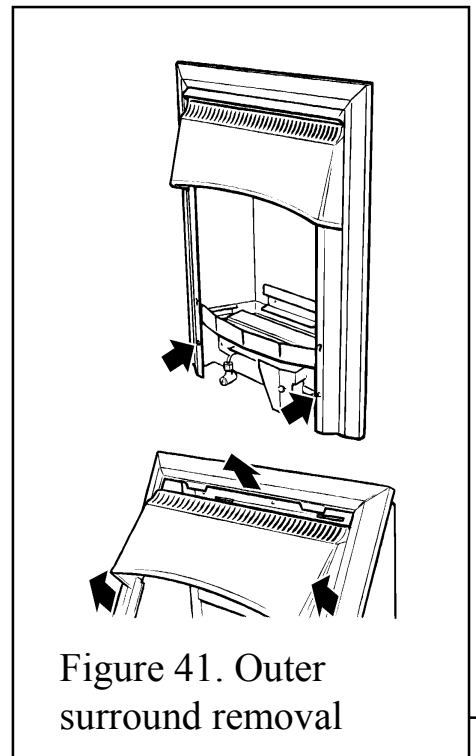

Figure 41. Outer surround removal
2. Remove the two screws securing the bottom of the front surround to the sides of the convection box. See figure 41.
3. Raise the front surround to allow the retaining lugs at the top to clear the slots in the convection box hood. See figure 41. Carefully remove the surround. Place carefully aside.